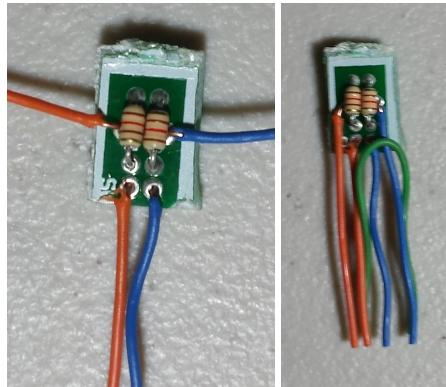

Figure 7.2: Constructing the Terminator
9. The board should now look like Figure 7.2 (left side).
Be sure to make the cut so you leave a clean, straight edge to the flat bundle of wires. See Figure 7.2 (right side).